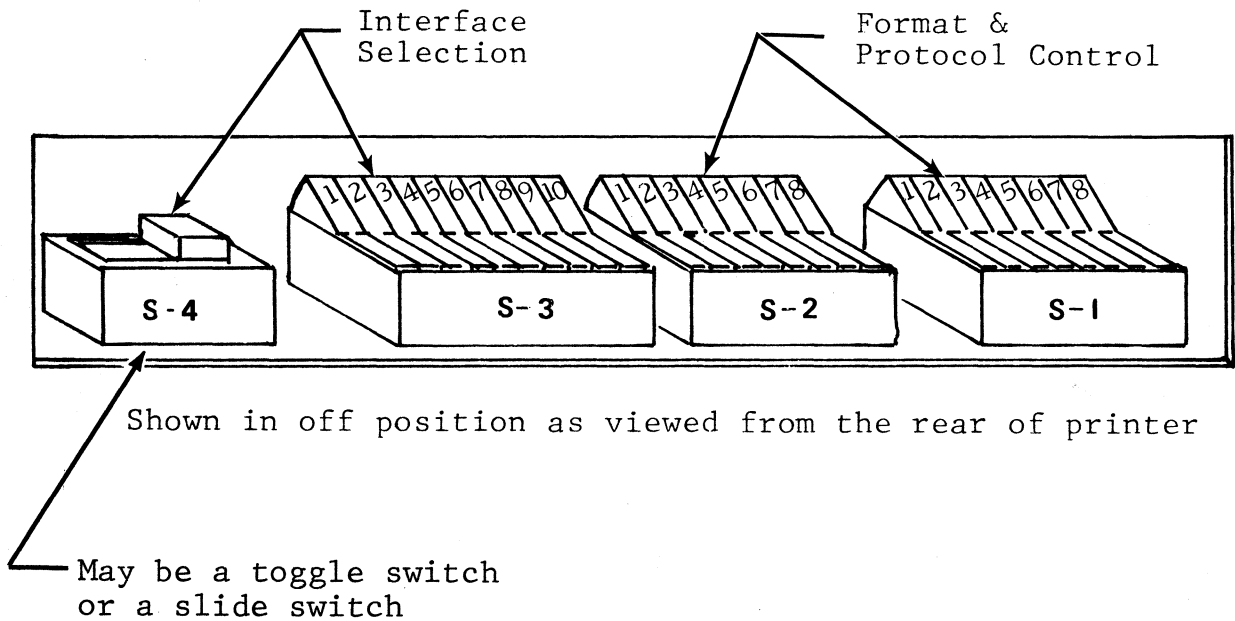

FIGURE 3-2. REAR ACCESS CONTROLS
3.2.2 INTERNAL CONTROLS WITH EXTERNAL ACCESS: Four switch blocks, S1, S2, S3, and S4 are located internally on the printed circuit card, and are accessible to the user/operator through an access slot at the rear of the printer. (See figure 3-2.) See tables 3-1 through 3-3 for switch function assignments.